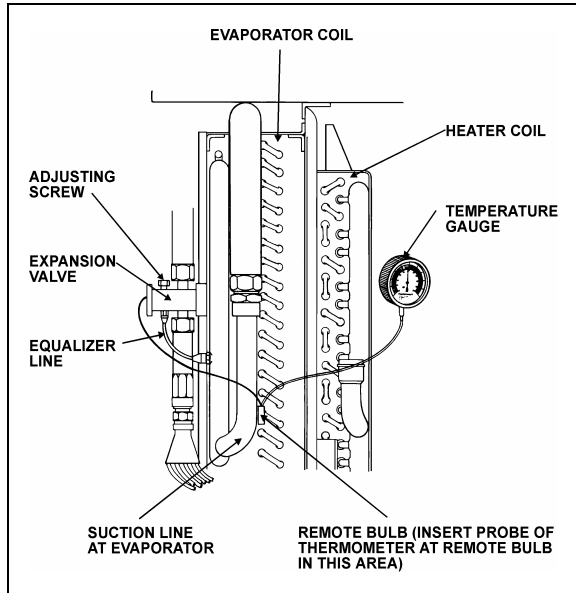

FIGURE 36: SUPERHEAT ADJUSTMENT INSTALLATION22046
The starting method of adjusting the superheat is to unscrew completely the main evaporator expansion valve adjusting screw, then screw in 13 turns clockwise for 134A (Fig. 36). Afterwards, the following procedure should be followed:
- Install a remote reading thermometer to the evaporator outlet line near the existing remote bulb (Fig. 36).